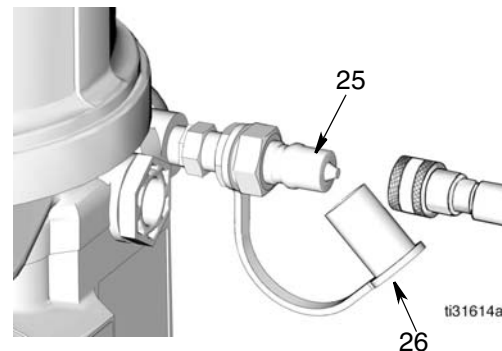

FIG. 20
<ul style="list-style-type: none"> • Always clean inlet fitting (25) (FIG. 20) with a clean dry cloth prior to filling reservoir. Dirt and/or debris can damage pump and/or lubrication system. • Care must be used when filling the reservoir using a pneumatic or electric transfer pump to not pressurize and break the reservoir.
1. Remove dust cap (26) and connect fill hose to inlet fitting (25) (FIG. 20).